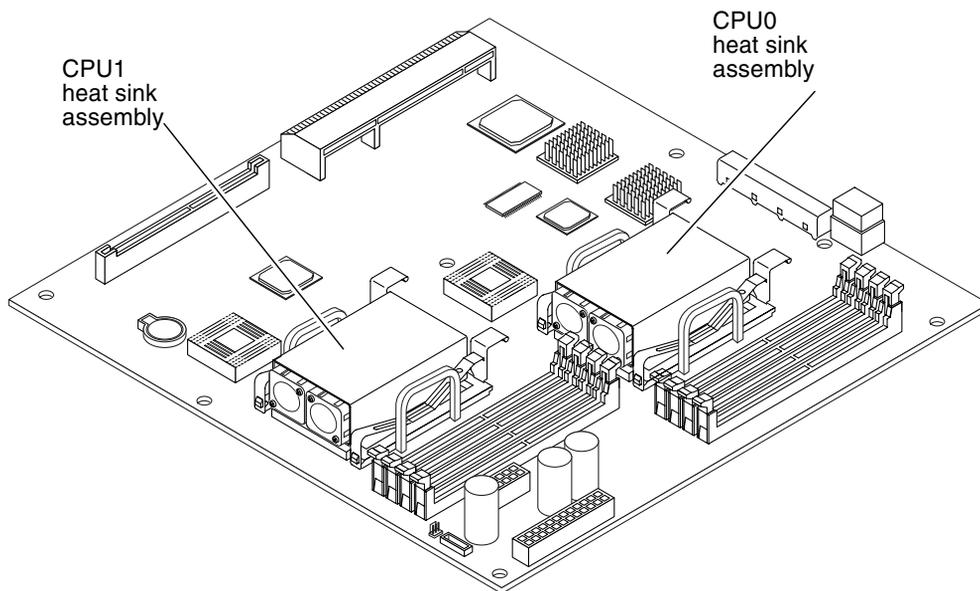

FIGURE 5-18 Location of the CPU Heat Sink Assemblies
2. Locate the CPU heat sink assemblies on the system board (FIGURE 5-18).